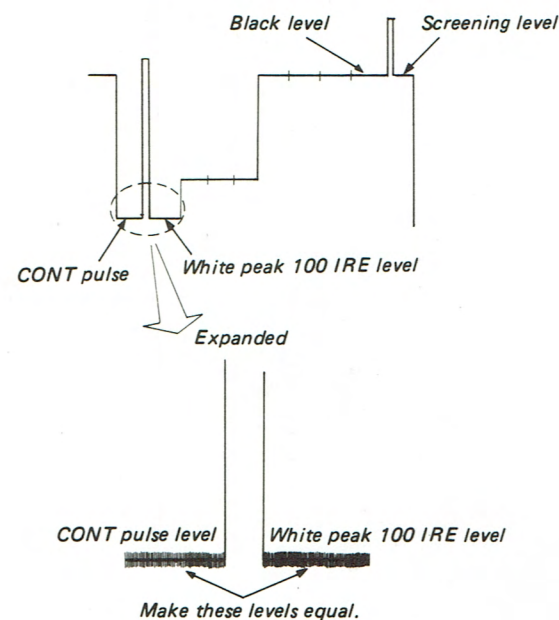

Fig. 33-2.
4. Turn RV14 on BG substrate to align the white peak 100 IRE level of waveform (G signal) on oscilloscope with the peak level of CONT pulse. See Fig. 33-2. (oscilloscope at maximum voltage sensitivity)